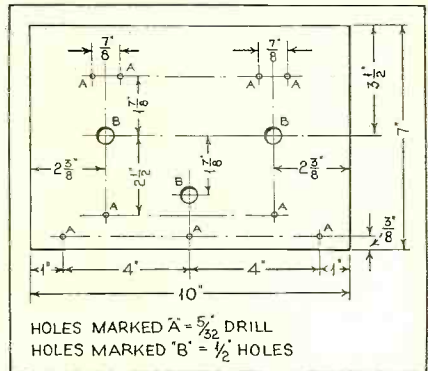

FIGURE 3
units connected in parallel. The triode units are suitable for utilization either as a biased detector or as an audio-frequency amplifier. Therefore, both functions can be performed by a single tube. A suitable circuit for this purpose is shown in Figure 3. The values of resistors and condensers are shown in the diagram. The requirement that both units have a different grid bias may cause some difficulty, since there is a common cathode. Therefore it would be best to obtain the bias from the voltage-divider system, which is indicated in the Figure. Maximum sensitivity of the detector is obtained with a grid bias of approximately -7.5 volts. This value is not critical. The plate current of the detector will then be approximately .1 milliamperes. The amplifier plate current is 1.2 milliamperes with a grid bias of -3 volts. This combination is sufficient to drive an output tube of a type 2A5 which requires a signal of approximately 16 volts for full output. In order to obtain this full output the
First mount the power transformer (Trans.), choke (X), binding posts and condensers C4, C8 and C9 in accordance with the layout of Figures 2 and 4. The panel, drilled as shown in Figure 3, is next in line. The switch, S, may now be mounted.